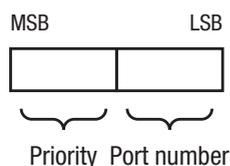

Figure 42: Port Identifier
- Of more than 1 path with the same root path costs originate from a bridge, the port identifier is used as the last criterion (see fig. 42). This decides which port is selected.